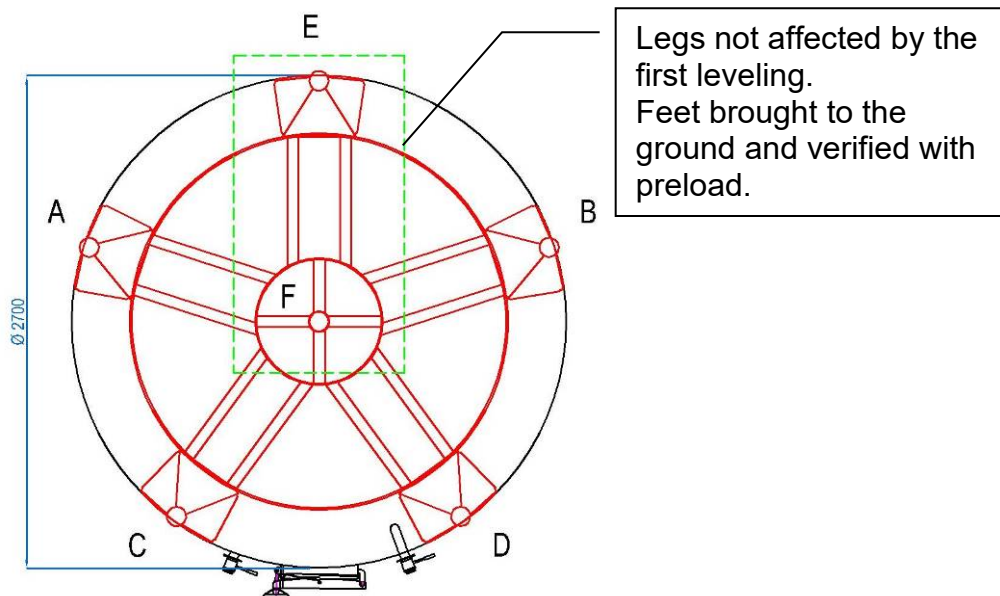

Figure 15: Tank bottom with 5 legs plus central support.
**ATTENTION:** For the correct leveling of the tank with 6 supports, first position the foot of the leg **E** to "0" and of the central support **F**, then proceed with leveling the tank resting on only 4 front legs **A - B - C - D** (see Figure 15).